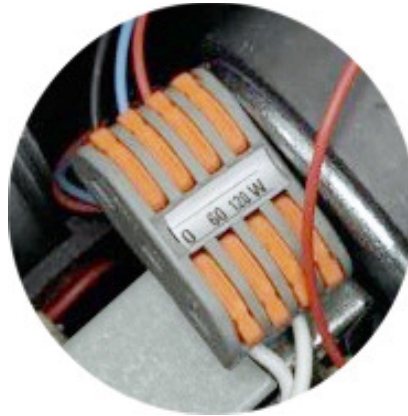

fig.3
- 3) connect the cables to the terminal board, as in the example fig. 3): connect the negative to the 0 (zero) and the positive to the desired output: